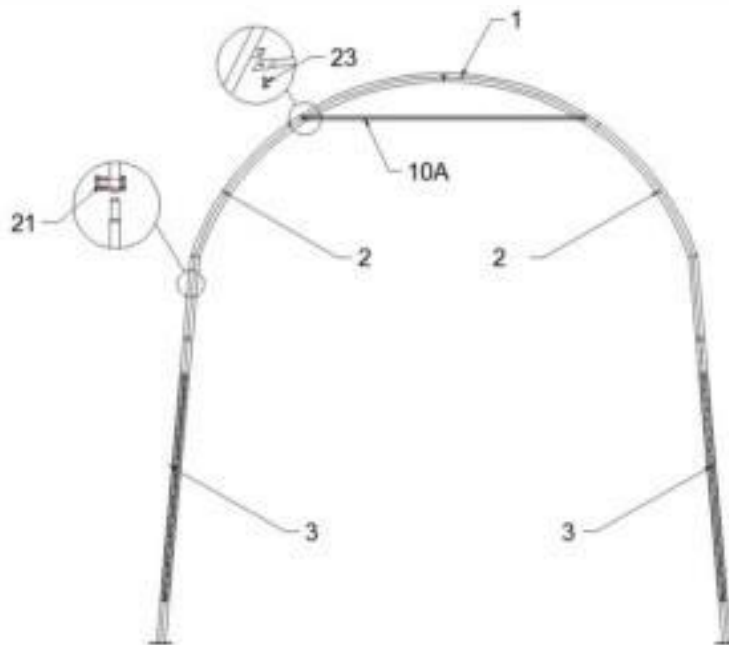

Figure 3
1. Please refer to Figure 3 for frame assembly, find one piece of top bent tube (No. 1), two pieces of sidewall bent tube (No. 2) and two pieces of standing leg (No. 3) and assemble every group arch with Bolt M8x80 (No. 21). Connect the horizontal tube (No. 10A) with arch frame by using Bolt M10x50 (No. 23). There are ten groups of arch. Assemble each group arch by turns.
3. By this way, install another arch and then connect them by purlins. There are 10 arches and 9 groups of purlins. You may refer to Figures 3 to find where the parts are when you are doing this.